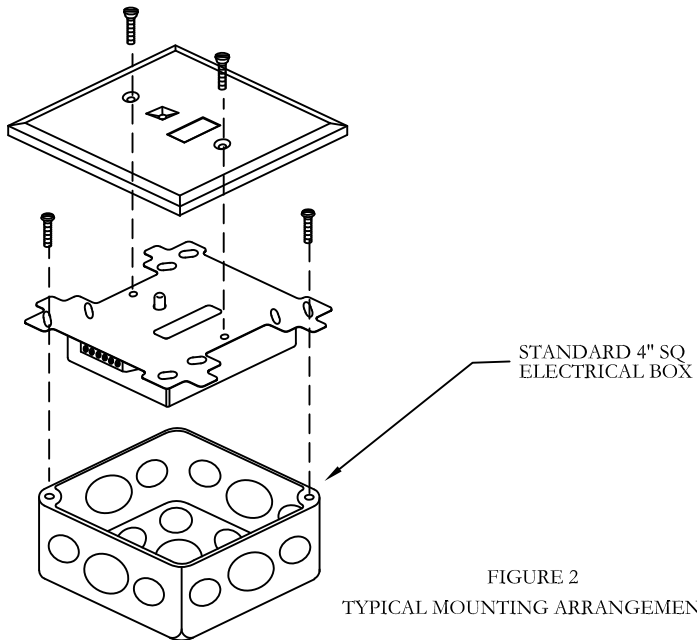

FIGURE 2
The DCP-SOM-A Supervised Output Module is mounted as shown in Figures 2 on page 2 of this instruction.
- 2) Secure the module to a U.L. listed electrical box (supplied by installer), as shown in Figures 2.